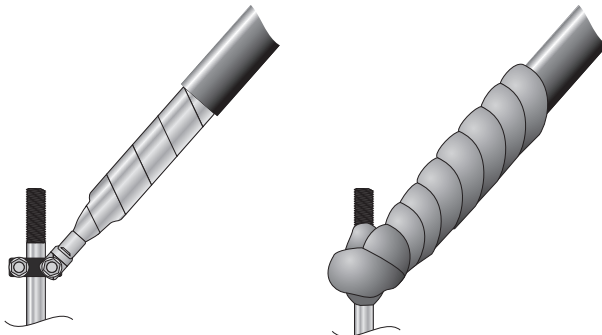

Figure 17.
7. Connect the crimp lug to the earthing system using the supplied U-Bolt earth clamp if necessary [Figure 17]. Ensure the connection is aligned correctly and tightly secured using a 17 mm spanner, socket or shifting spanner.
8. Use the waterproofing mastic tape to completely cover all exposed conductive areas of the lower termination and to seal the termination from moisture ingress where it connects to the earthing system [Figure 17].